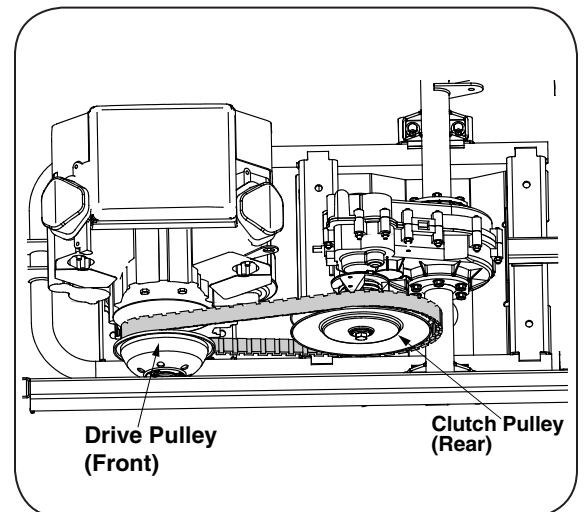

Figure 20
2. Route belt from drive clutch (rear pulley). See Figure 20.